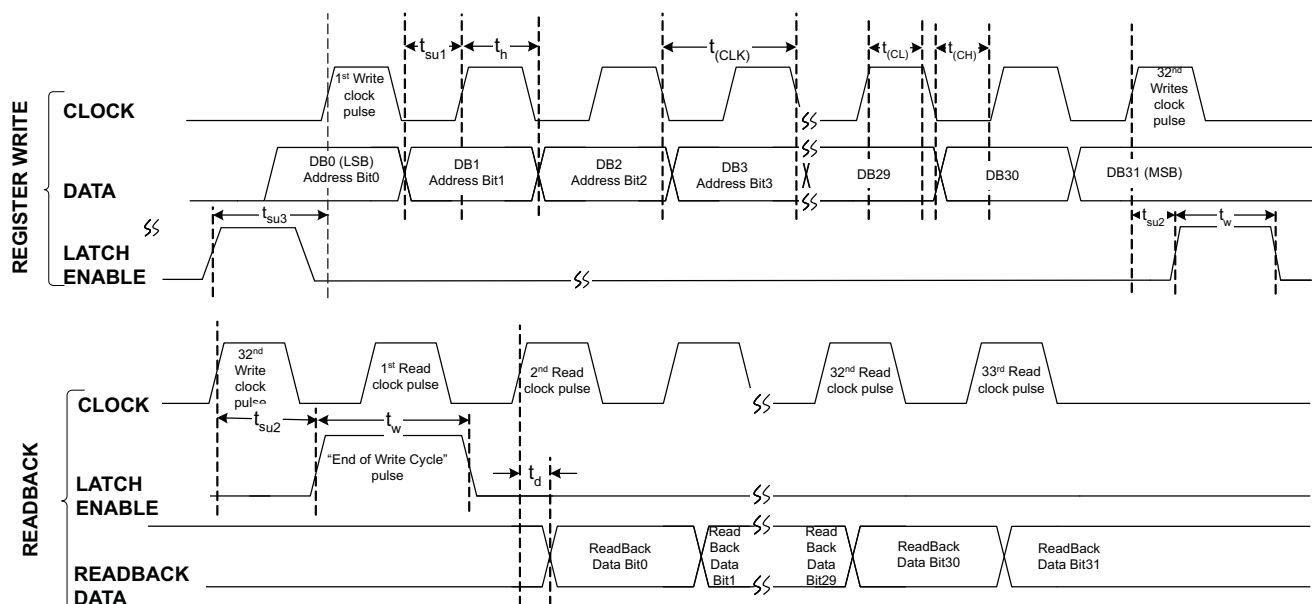

Figure 100. SPI Readback Timing Diagram
2. Reading the actual data of the internal registers (see timing diagram in Figure 100).